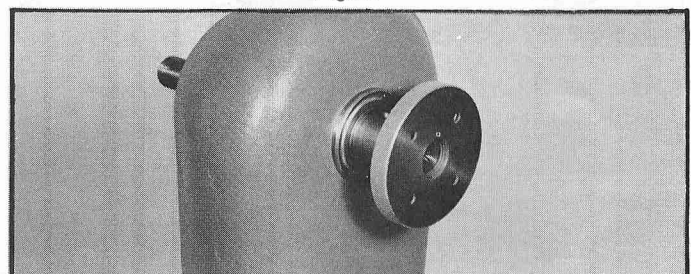

Fig. 22
3. Fig. 22, illustrates the 46-091 3" Diameter face plate assembled to the spindle.